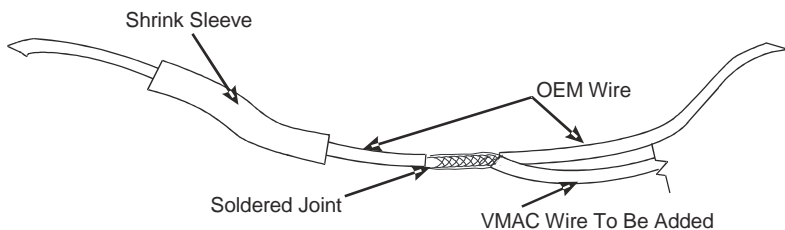

Figure 3.3
- ☐ Solder and seal the long blue wire from the throttle to the orange wire with black stripe as shown in Figure 3.3.